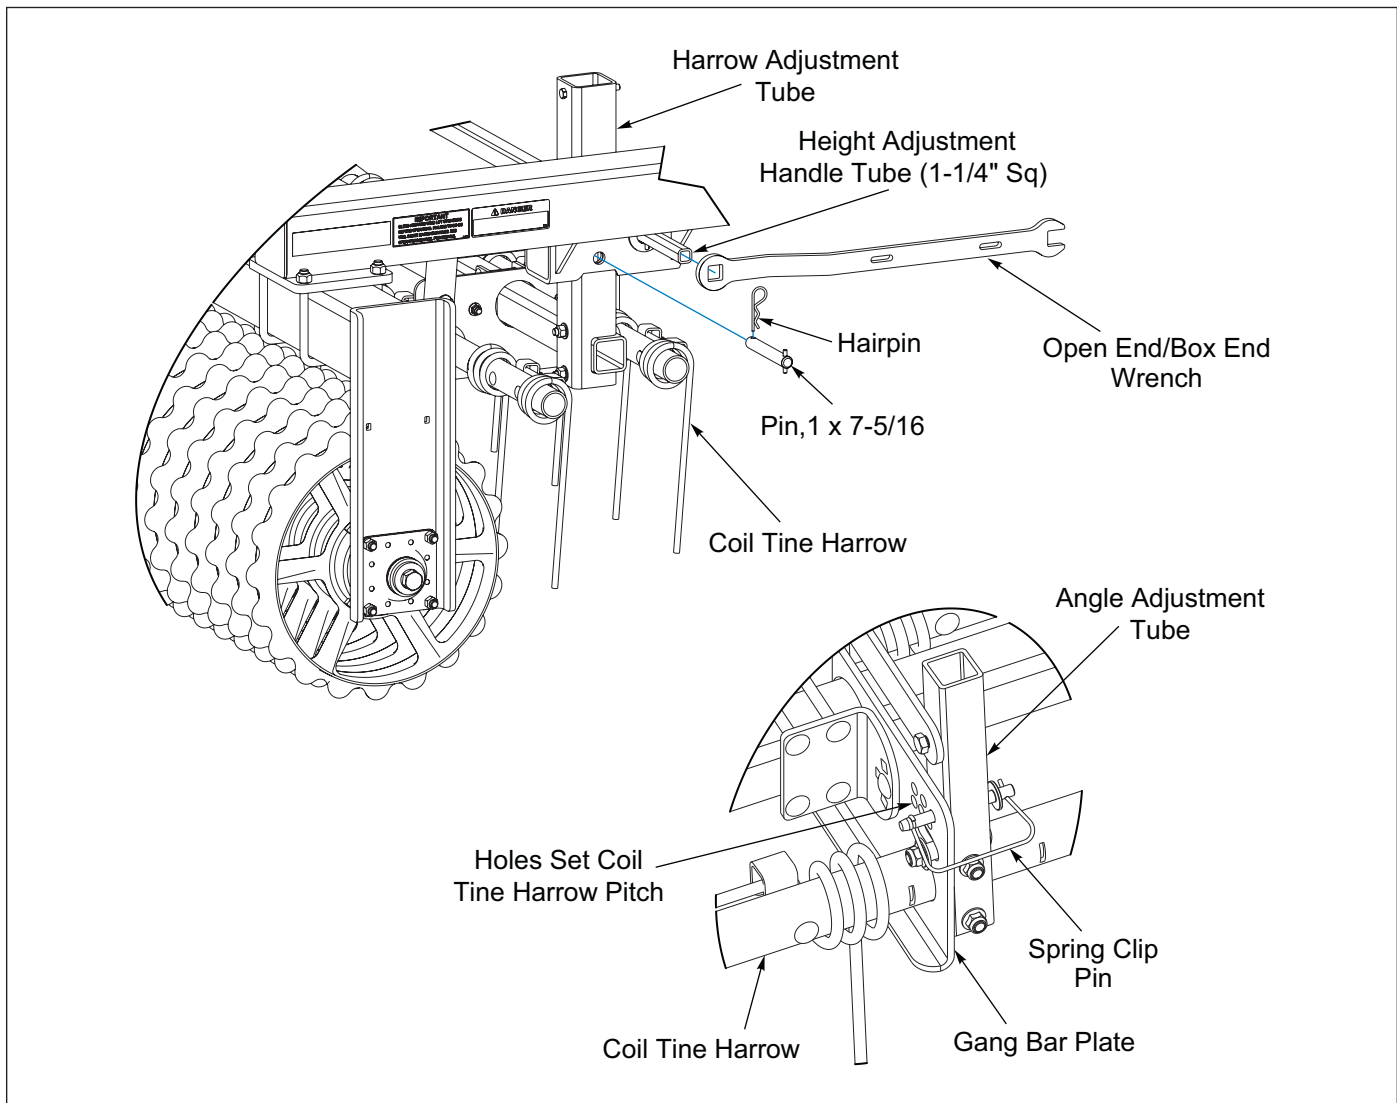

Figure 3-8: Coil Tine Harrow Adjustment
1. Adjust the Harrow Coil Tine pitch at the rear of the implement, by removing the Harrow Adjustment Spring Pins from the Angle Adjustment Tubes and rotating the tube to the desired angle. **See Figure 3-8.**
1. Adjust the Harrow Depth with the open end/box end wrench located on the right side of the frame by the Drawbar. **See Figure 3-8.**